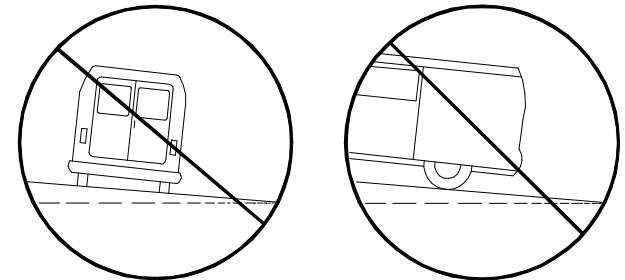

FIGURE 2-1: DO NOT ADJUST SEAT BASE IF VEHICLE IS ON STEEPLY SLOPED GROUND
- Refer to **Figure 2-1**. The Power Seat Base should be adjusted with the vehicle parked on level ground, or near level.